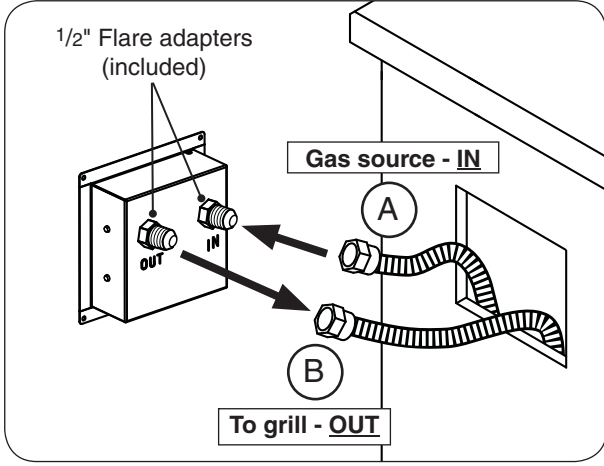

Fig. 1-2 Install timer box
2. **Connect gas source to IN:** Using two wrenches, connect the gas line (not included) coming from your gas source to the 1/2" flare adapter labeled **IN**. See Fig 1-2, A. Ensure the connection is tightened securely.
3. **Connect grill line to OUT:** Using two wrenches, connect the gas line coming from your grill to the 1/2" flare adapter labeled **OUT**. See Fig 1-2, B. Ensure the connection is tightened securely.